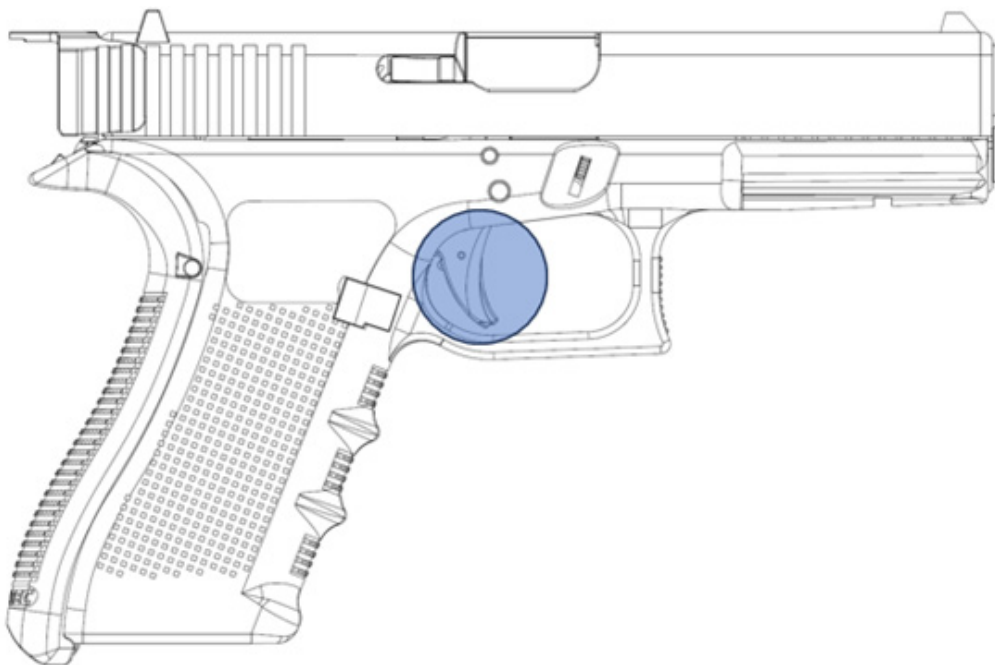

Figure 107: Trigger position to disassemble the Slide.
2. The Trigger must be in the rearward position (Figure 107).